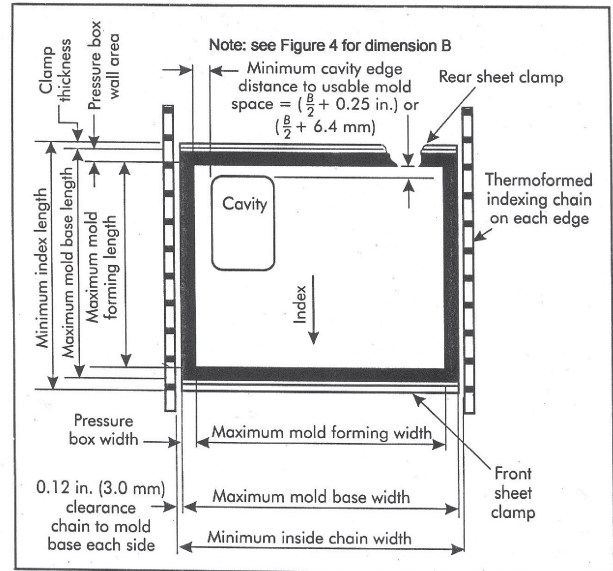

Figure 6. Fixed mold base space requirements.
4. *Cavities closest to the chain index rail* have two factors affecting their placement. This area may have a different sheet-heating pattern than the rest of the web due to the heat loss to the metal chain rail and may require an increase of edge distance to maintain part quality. The pressure box wall thickness dimension should be added to the cavity edge distance allowance (Fig. 6).